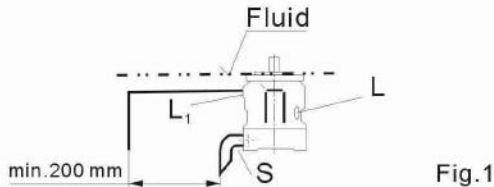

Fig. 1
- a) If the minimum fluid level is equal to or above the pump mounting face close port "L" plugged, leave ports "L₁" and "S" open; L₁ piped and recommendation S piped (see Fig. 1).